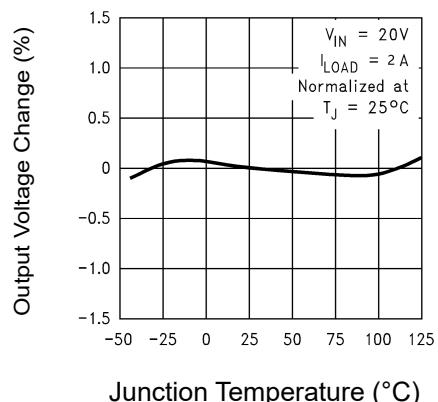

Figure 1: Normalized Output Voltage
Note 5: External components such as the catch diode, inductor, input and output capacitors, and voltage programming resistors can affect switching regulator system performance. When the LM2592 is used as shown in the Figure 1 test circuit, system performance will be as shown in system parameters section of Electrical Characteristics.
10.1 Typical Characteristic (Circuit of Figure 1)